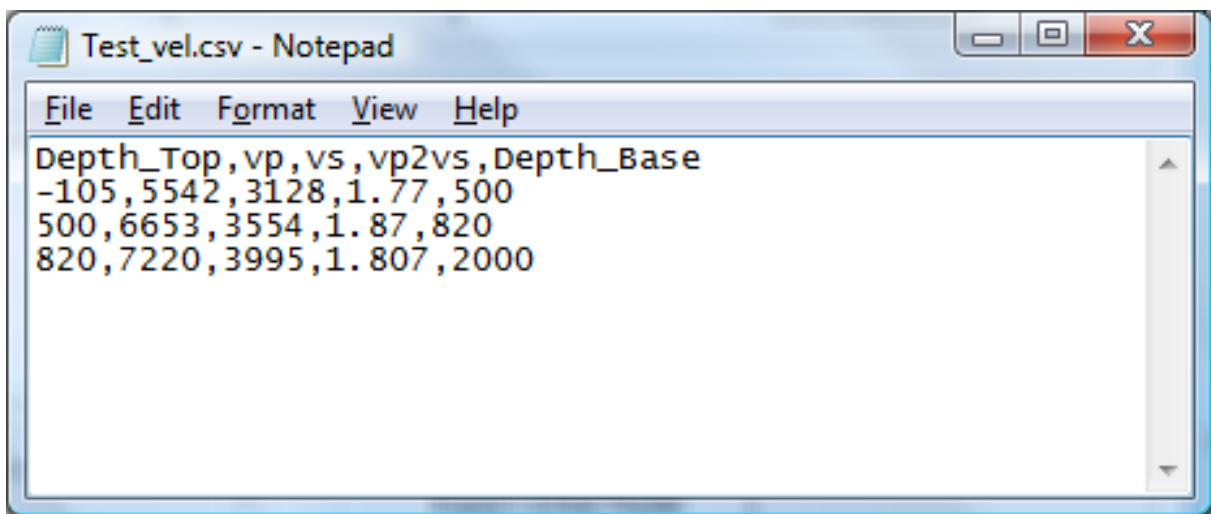

Figure 17-38: Initial Velocity Model CSVFile
1. Load the initial model from an external csv file, an example of which is shown in Figure 17-38;